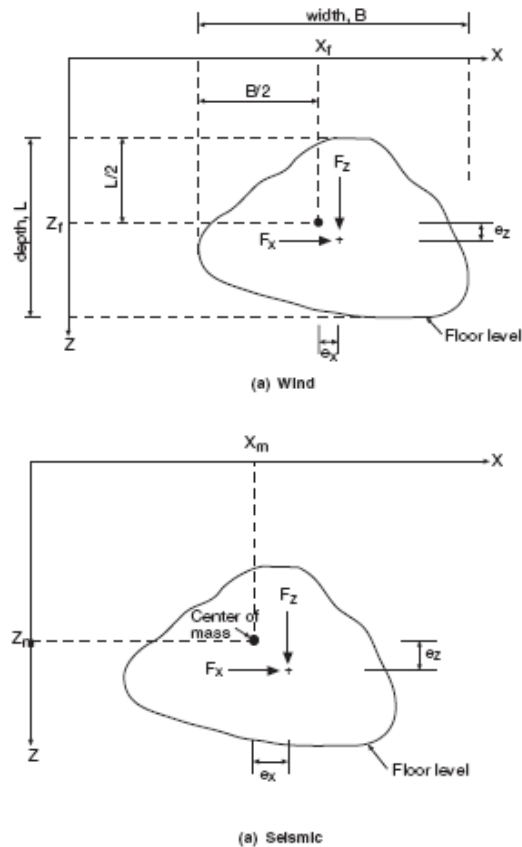

Figure 5-11 Floor dimensions and lateral load point of application
- Each floor width, depth, and weight are computed based on the input geometry and assigned properties. The floor width is the projected dimension along the X axis while the depth is the projected dimension along the Z axis (see Figure 5-11). Floor weight is the weight of all members contained in the plane of the floor level plus the weights of the columns tributary to the floor level. Any panel loads assigned under the SELF load case will also be included in the floor weight.